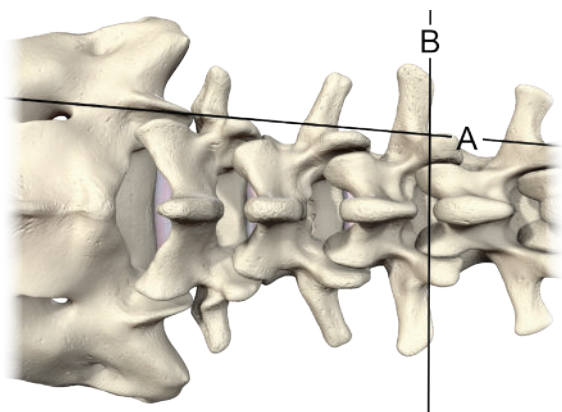

Figure 5
- Confirm fluoroscopically and mark with a horizontal line on the skin, line "B" (Figure 5).